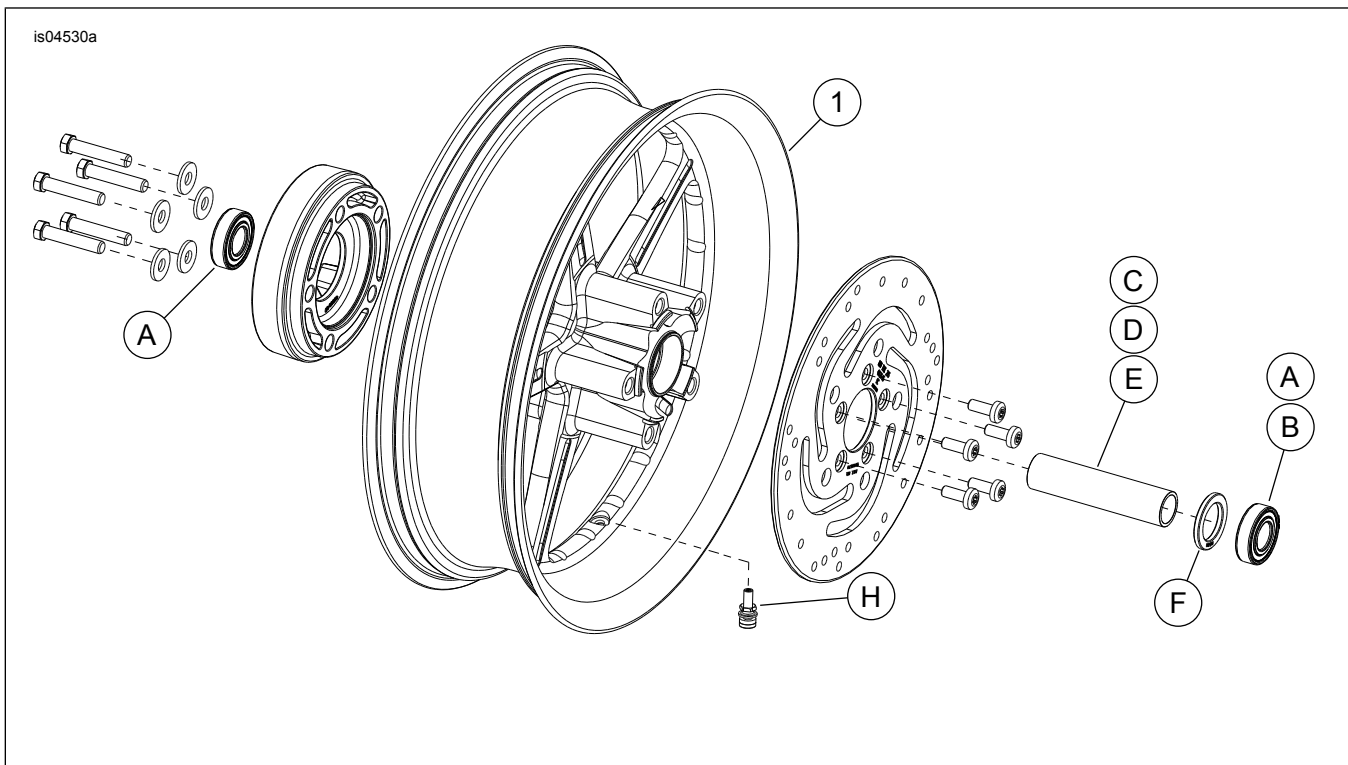

Figure 1. Service Parts: Rear Reactor Wheels
See Figure 1 and Service Parts Tables.
2. See Figure 1. Install valve stem assembly (H) on wheel following the instructions in the appropriate service manual.